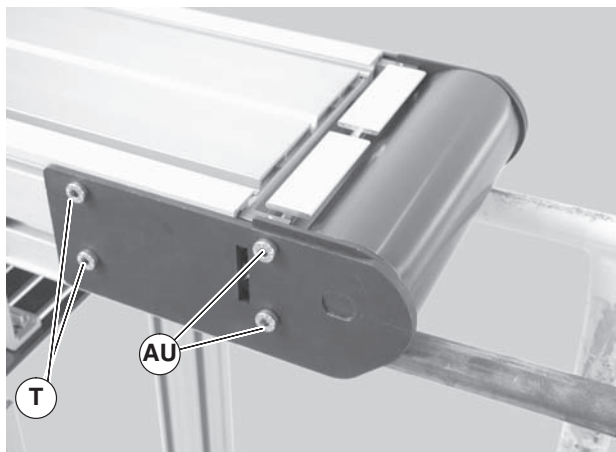

Figure 35
2. On one side of conveyor, loosen the two (2) back fastening screws (Figure 35, item T) and remove two (2) front fastening screws (AU).